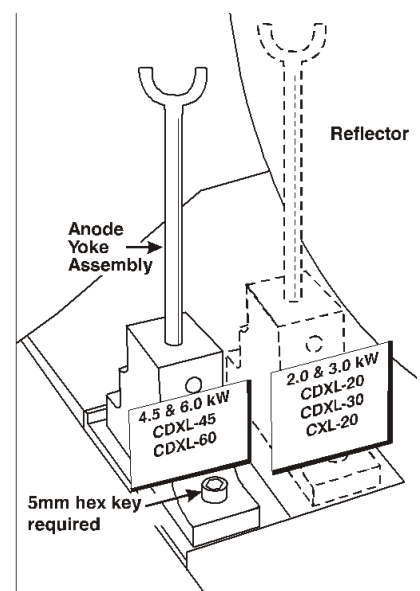

Figure 5-4 Lamp Yoke Position
- Check that the anode yoke (lamp yoke) is in the correct position. (Figure 5-4)